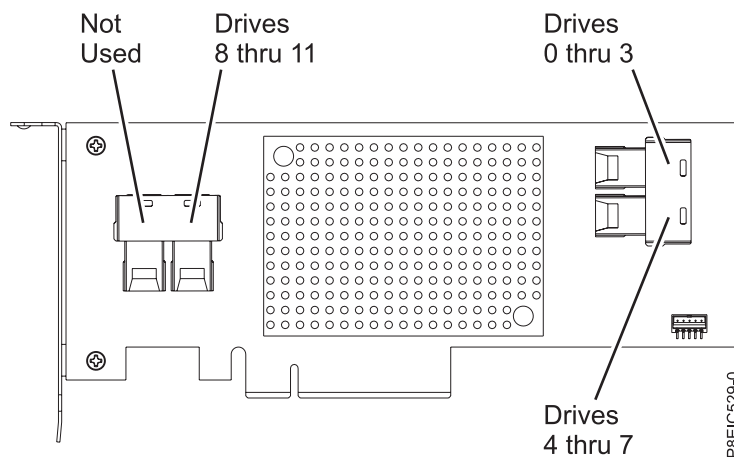

Figure 39. Cabling the PCIe Gen3 SAS/SATA RAID adapter (FC EC3S)
- c. Connect the disk drive signal cables to the PCIe Gen3 SAS/SATA RAID adapter (FC EC3S) before installing the adapter. See Figure 39.